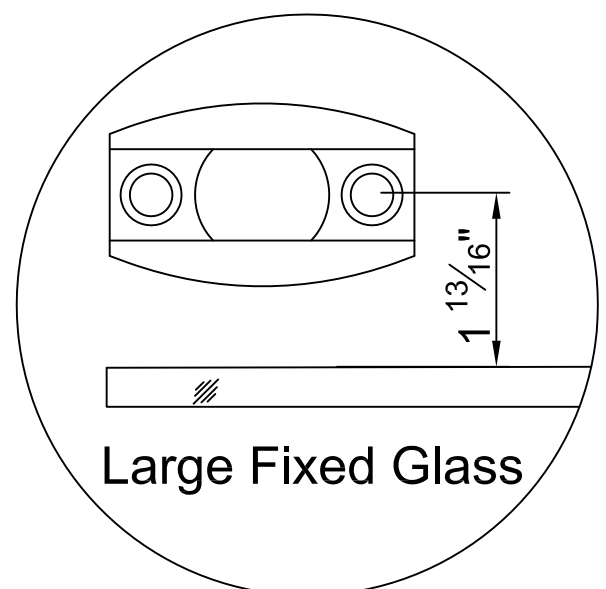

Fig. 29
29. Position the Sliding Door Track Divider (8) into position as seen in Fig.29 and mark the 2 shower base hole positions.
Note: In Fig.29 the hole locations for attaching sliding door track divider should be $1 \frac{13}{16}$ " from edge of Large Fixed Glass (3).
See Fig.29 for details.